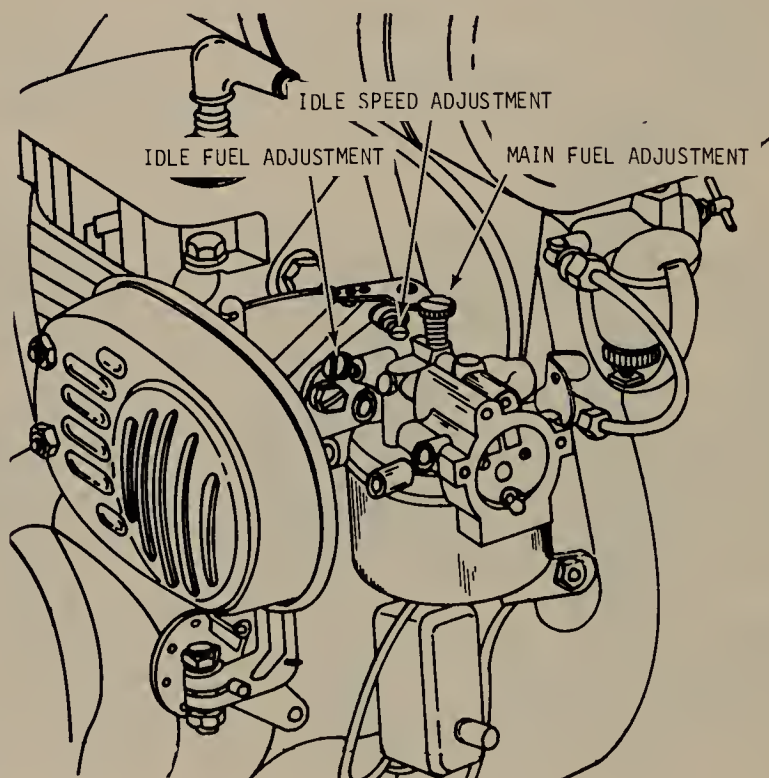

FIGURE 15.15 Adjustments on a side-draft carburetor used on a small engine. (*Kohler Company.*)
15.15 Kohler Small-Engine Carburetor Service. Figure 15.15 and 15.16 show the adjustments on the side-draft and the updraft carburetors used on many models of Kohler small engines. Kohler provides the following trouble-diagnosis chart.
Here is the recommended procedure for adjusting the two carburetors shown in Figs. 15.15 and 15.16. With the engine stopped, turn the main-fuel and idle-fuel needles all the way in (clockwise) until they bottom. Do not tighten screws as this will damage the needle valves.